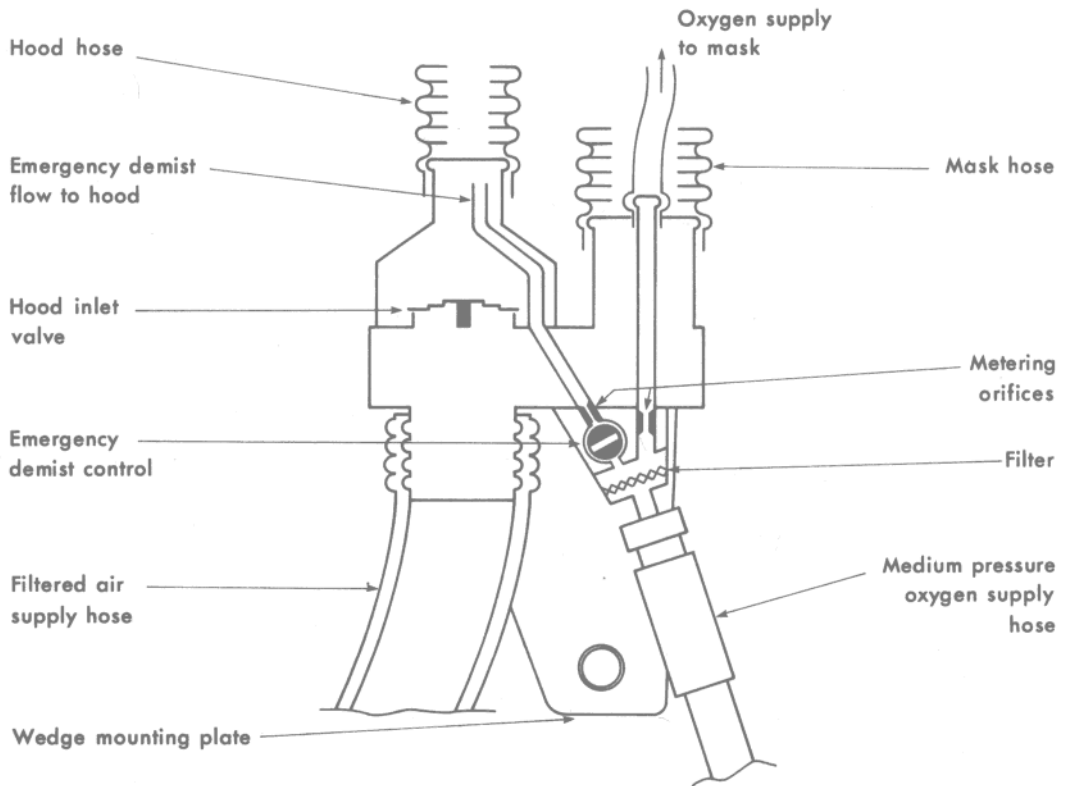

Fig 7. Diagram of Supply Manifold Mk 1 for AR5
a. *Manifold and Hose Assembly Mk 1/1A.* This form of manifold carries filtered air supplied by a ventilator to the mask and hood compartments of the respirator together with oxygen from a medium pressure (70 psi) supply. The manifold consists of a chamber into which is connected the air inlet, mask inlet and hood inlet hoses and an oxygen block (Fig 7). The air inlet hose opens directly into the chamber and the mask hose opens directly out of it. There is, however, a non-return valve between the chamber and the outlet to the hood hose. This valve (the hood inlet valve) consists of a stepped rubber disc and seat. When air is delivered at positive pressure to the manifold the resistance to flow through the hood inlet valve (the hood hose and hood inlet adaptor) maintains safety pressure in the mask relative to the hood compartment during inspiration. The hood inlet valve also prevents air being drawn back from the hood compartment and inspired through the mask hose on failure of the blown air supply. Butyl anti-kink hoses are fitted to the manifold, the air inlet hose ending in a bayonet plug Mk 7. Restraint cords prevent overextension of the mask and hood hoses under high g or windblast forces. The inlet to the oxygen block of the manifold carries a length of butyl medium pressure hose which is fitted with the male portion of a QR (Circlex) connector. A pressure opening valve which is leakproof until the pressure difference across it exceeds 2 psi is incorporated in this inlet hose in order to prevent contaminated environmental air being drawn through the oxygen supply hose when the latter is not connected to the aircraft oxygen system.
c. *Oxygen Supply.* A constant flow of oxygen (approximately 8 litre (NTP) min⁻¹) passes into the mask hose through a metering orifice in the oxygen block of the manifold and thence through an inner tube which opens into the mask hose just upstream of the inlet non-return valve of the mask. During expiration the oxygen fills the mask hose which thus acts as a reservoir so that on inspiration this oxygen is drawn into the lungs followed by air together with the continuous flow of oxygen. This oxygen system will prevent hypoxia at altitudes between ground level and 25,000 feet. Above a cabin altitude of 25,000 feet, however, the volume of the reservoir must be increased in order to avoid hypoxia. This is achieved by switching off the aircraft fixed ventilator automatically by a barometric switch. Since loss of ventilation of the hood compartment of the respirator can result in certain circumstances in rapid misting of the visor and hence impairment of vision, an alternative supply of gas to purge the compartment is provided through the oxygen block of the manifold. In the event of failure of the blown air supply in flight, a flow of oxygen (10–12 litre (NTP) min⁻¹) can be delivered into the hood hose (down stream of the hood inlet valve) by operating the EMERGENCY DEMIST control which is mounted on the front surface of the respirator supply manifold (figure 7). This flow of oxygen will prevent misting of the visor. The EMERGENCY DEMIST control must be operated immediately the cabin altitude exceeds 22,000 – 25,000 feet. Since this oxygen system does not provide pressure breathing the use of the AR 5 is